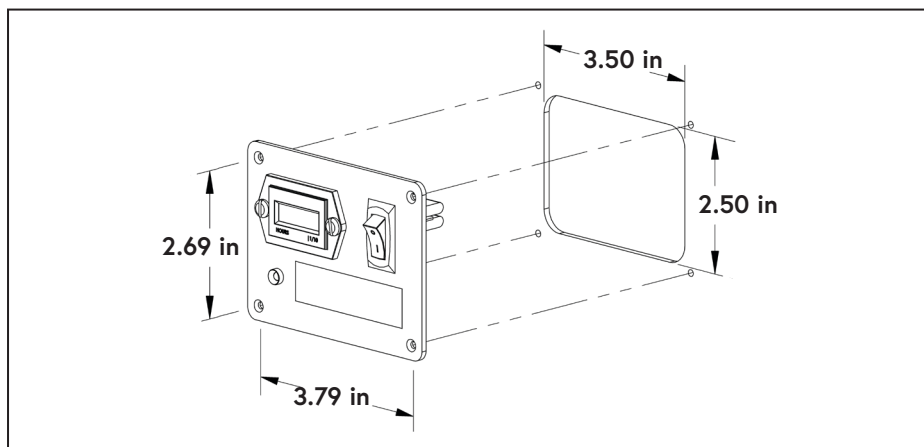

Figure 35 — Interface panel mounting dimensions
- Install the interface panel in a suitable location (Figure 35).